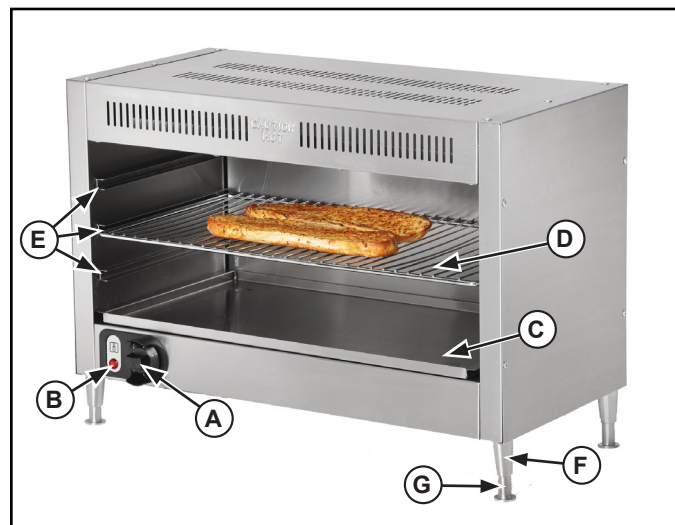

Figure 1. Features and Controls.
1. Hold the leg (F) and rotate the feet (G) so the equipment is level. See Figure 1.
2. Place the food grid (D) into the desired height of the grid/tray support (E). The food grid must be level and in the center groove of the grid/tray support.
3. Grasp and slide the food grid (D) out using a tongs, gloves, mitts or pot holders to protect hands.
4. Hold the food grid (D) and evenly load food product onto the food grid.
5. Turn the temperature control (A) to the desired number setting. Follow food manufactures instructions for correct preparation and safe serving guidelines.
7. Grasp and slide the food grid (D) out using a tongs, gloves, mitts or pot holders.
9. Slide the food grid (D) back into the equipment using a tongs, gloves, mitts or pot holders.
4. Remove, clean and dry the food grid (D) and crumb tray (C). See Figure 1
5. Place the food grid (D) into the desired height of the grid/tray support (E). The food grid must be level and in the center groove of the grid/tray support.